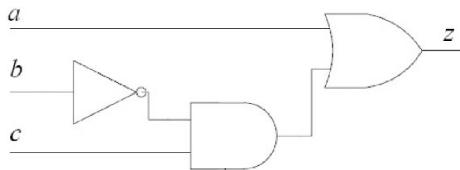

Fig. 3.19
35. Consider the boolean Function $z(a, b, c)$ from Fig. 3.19 below. Which of the following minterm lists represent the circuit given above?